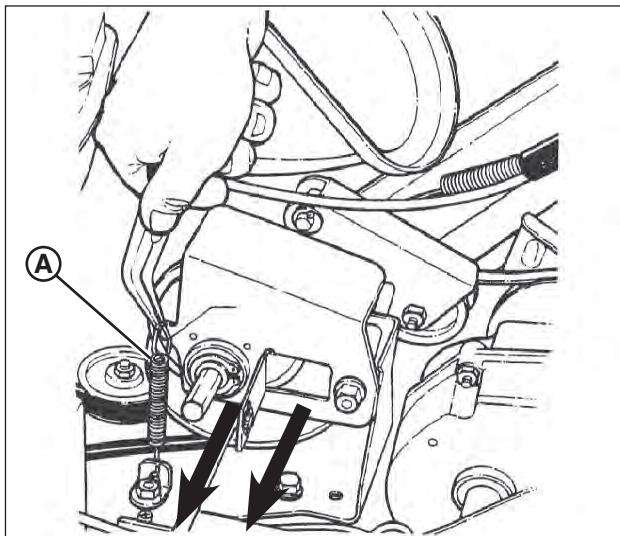

Figure 30: Removing the driven disc assembly
2. Using needle nose pliers, unhook the drive spring (**A**, **Figure 30**) and slide the driven disc assembly off the hex shaft.